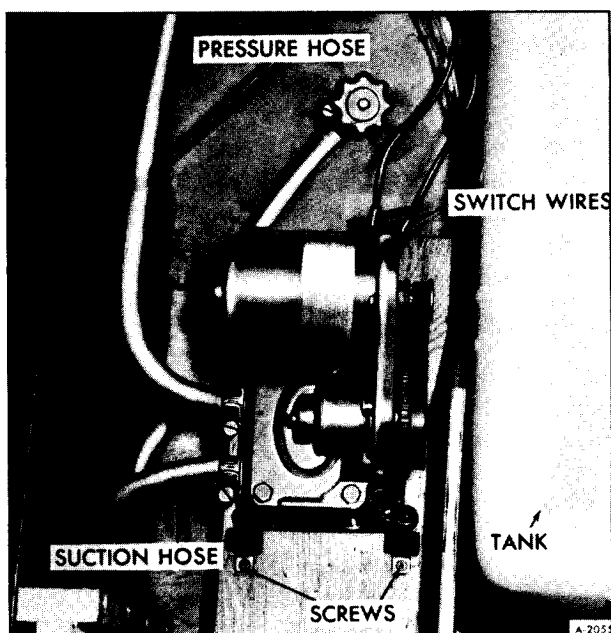

Figure 4
4. Disconnect hoses from water pump. See Figure 4.
6. Remove four (4) pump hold down screws. See Figure 4.